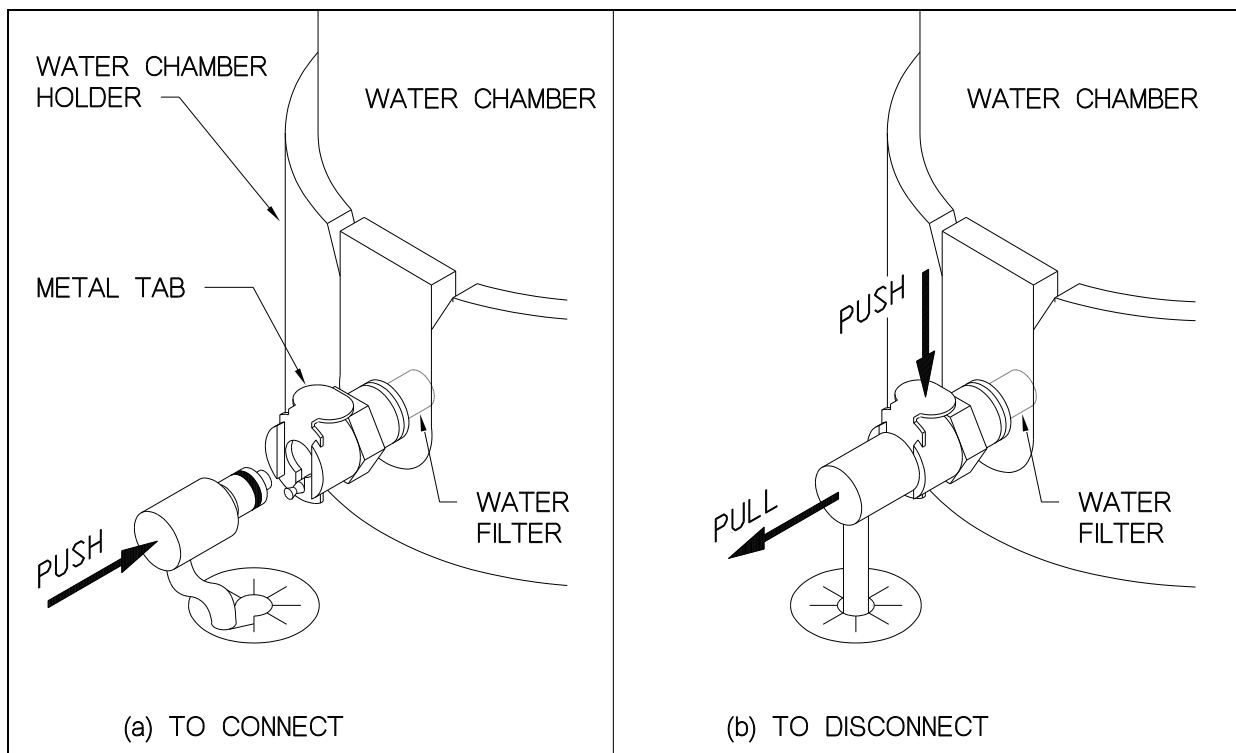

Figure 13. Bottom Quick-Connect and Filter on Water Chamber
- Place the water chamber into the plastic holder on top of the Manometric Pump, lining up the water quick-connect pointing to the left on the bottom of the water chamber with the slot in the holder (Figure 13, Section 4.1).
- Attach the bottom plastic quick-connect located at the bottom of the water chamber (Figure 13 below).